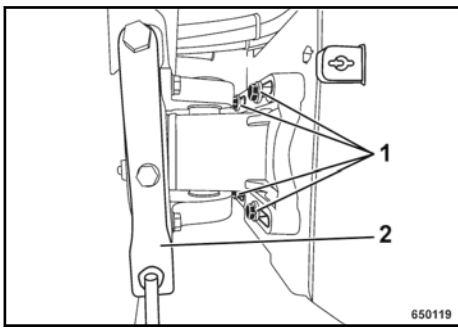

Fig. 63
Slightly loosen the screws (1) ↗ Fig. 63.
↗ Fig. 63 and fasten it in the holder.